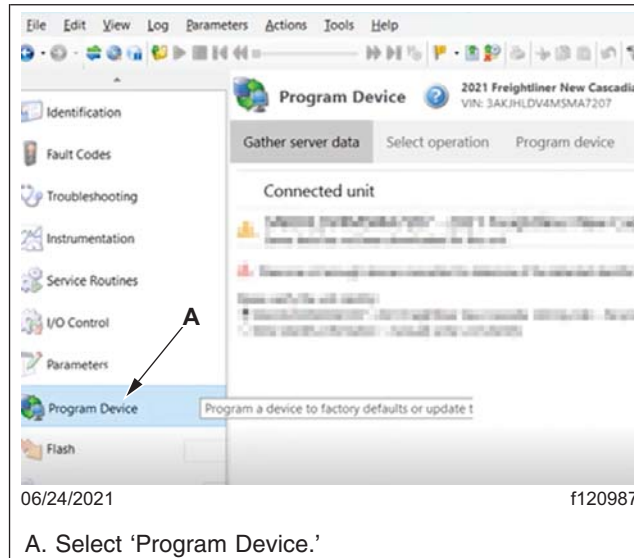
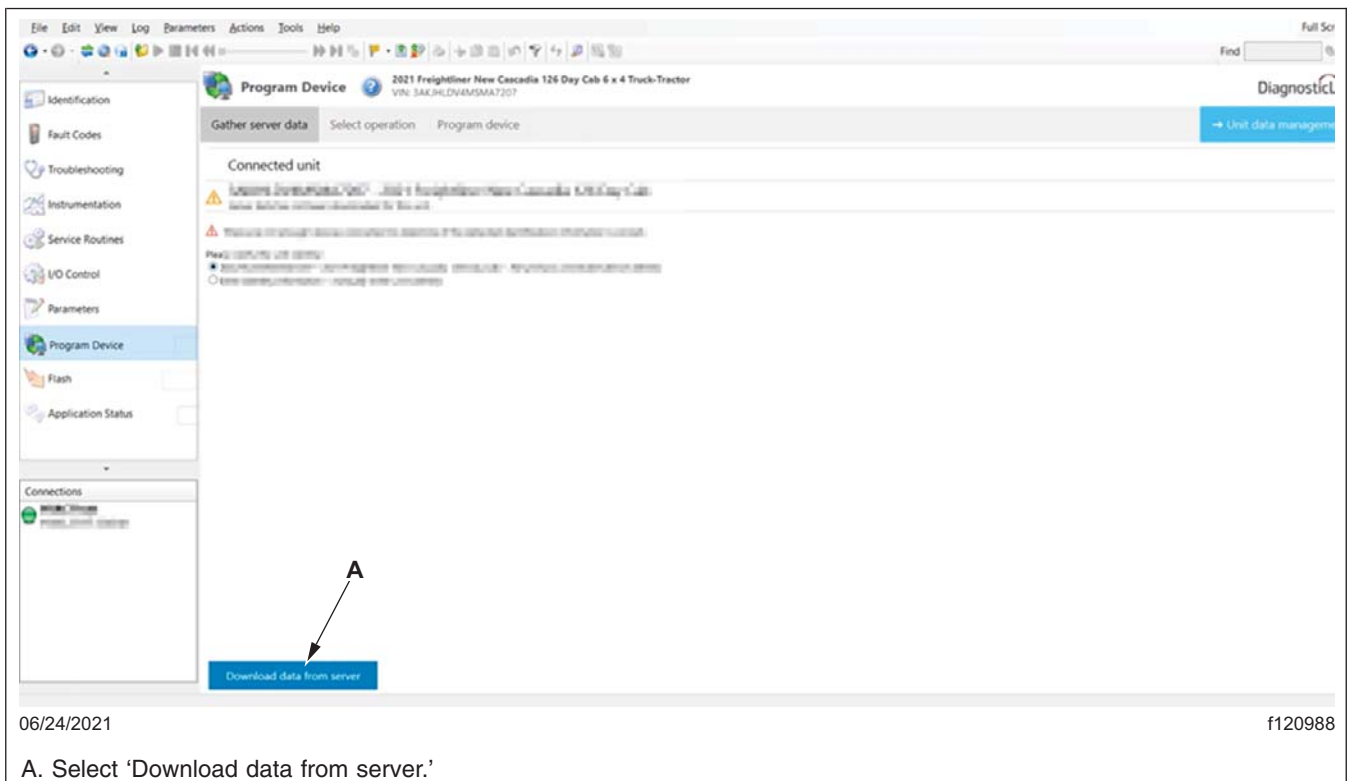

Fig. 1, Selecting Program Device
Fig. 2, Downloading Data from Server
- Go to 'Program Device,' then select 'Gather Server Data.' Verify and select the vehicle identification number (VIN), then select 'Download Data from Server.' See Fig. 1 and Fig. 2.
- Select 'Program Device' on the left-hand side of the window. See Fig. 1.